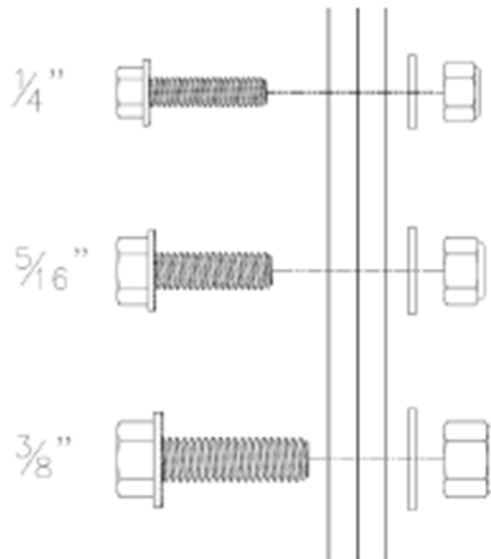

Figure 1: Always place washer on the same side as nut.
- When installing hardware, the washer is always placed on the same side as the nut (see Figure 1 below).